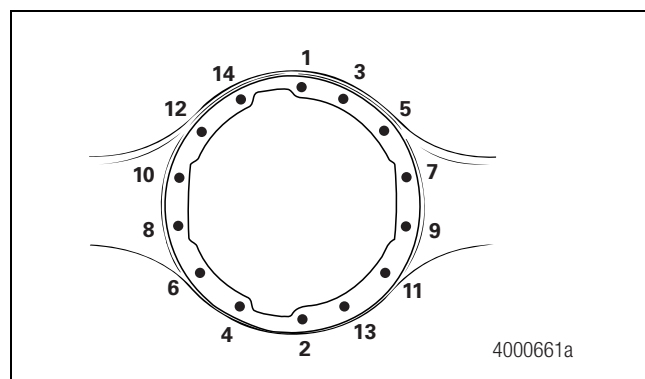

Figure 4.10
15. Tighten the Nord-Lock® capscrews to 210 lb-ft (285 N•m) in sequence shown in Figure 4.10.